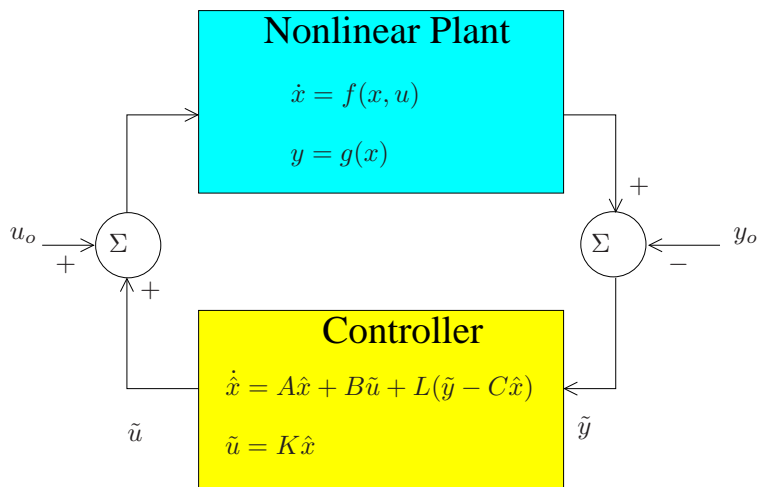

Figure 4: Block diagram of closed-loop nonlinear system
- (c) Repeat part(b) except now use the nonlinear model of the ball and beam system. The setup is shown in Figure 4.